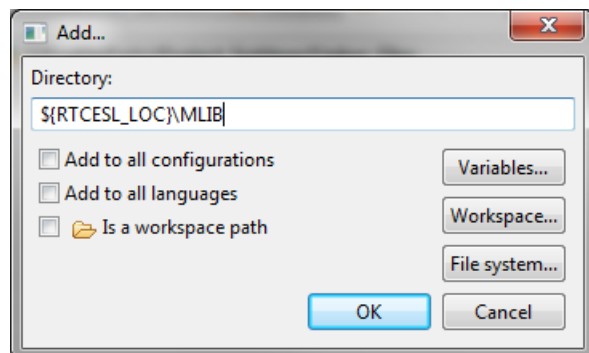

Figure 1-21. Library path inclusion
5. Look for the RTCESL_LOC variable by clicking Variables..., and then finish the path in the box by adding the following (see Figure 1-21): \${RTCESL_LOC}\MLIB.